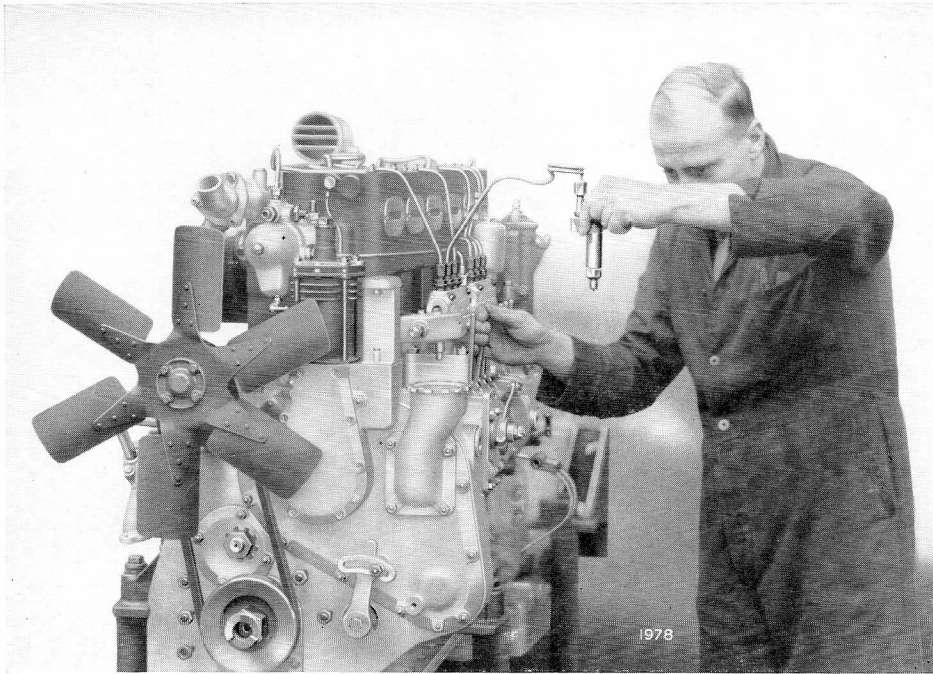

Fig. 18. Testing Sprayer Removed from Engine
Fig. 18 illustrates the hand operation of the fuel pumps but shows the sprayer removed from the engine as would be the case when a corrected sprayer was being re-tested without the facility of bench testing equipment.
51. TESTS FOR STOPPAGE OF JET HOLES AND SHAPE OF ISSUED FUEL JETS. Mount the sprayer on a fuel pipe connected to the engine fuel pump, see Fig. 18, or to a bench-mounted test pump in such a manner that the fuel jets are visible when the